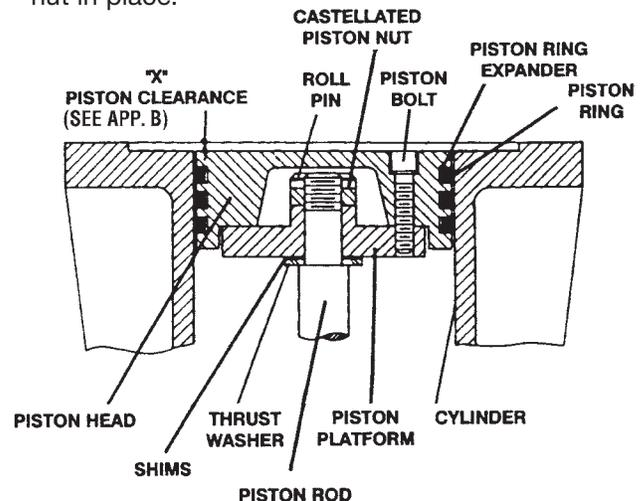

Figure 5.4A: Piston Cross Section
6. Before installing the new piston, measure the thickness of the existing shims. For Models 91 through 491, the shims are placed between the thrust washer and piston platform. For model 691, the shims are placed between the platform and piston head (see figures 5.4A and 5.4B).